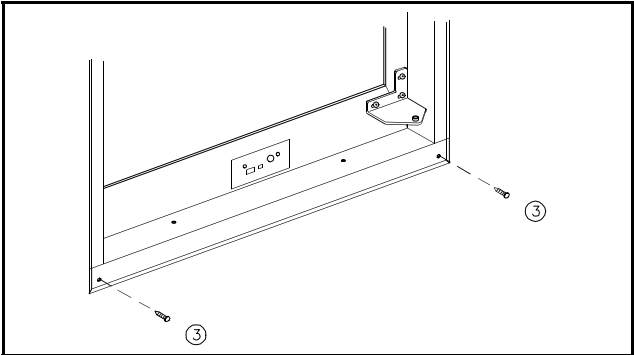

Figure 6
- 2. Once the lower flange is slipped around the hinge, the part will swing into place into place as shown in Figure 6.